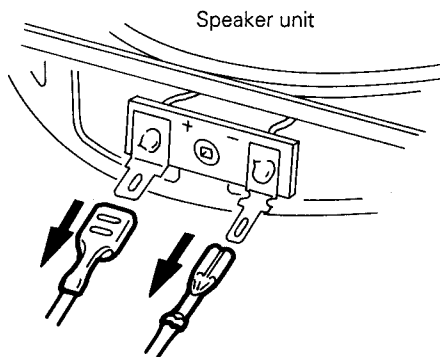

Fig. 7-36
5. Slide the speaker unit outwards while slowly pulling the speaker cord (8) from the speaker terminal for disconnection (Fig. 7-36).